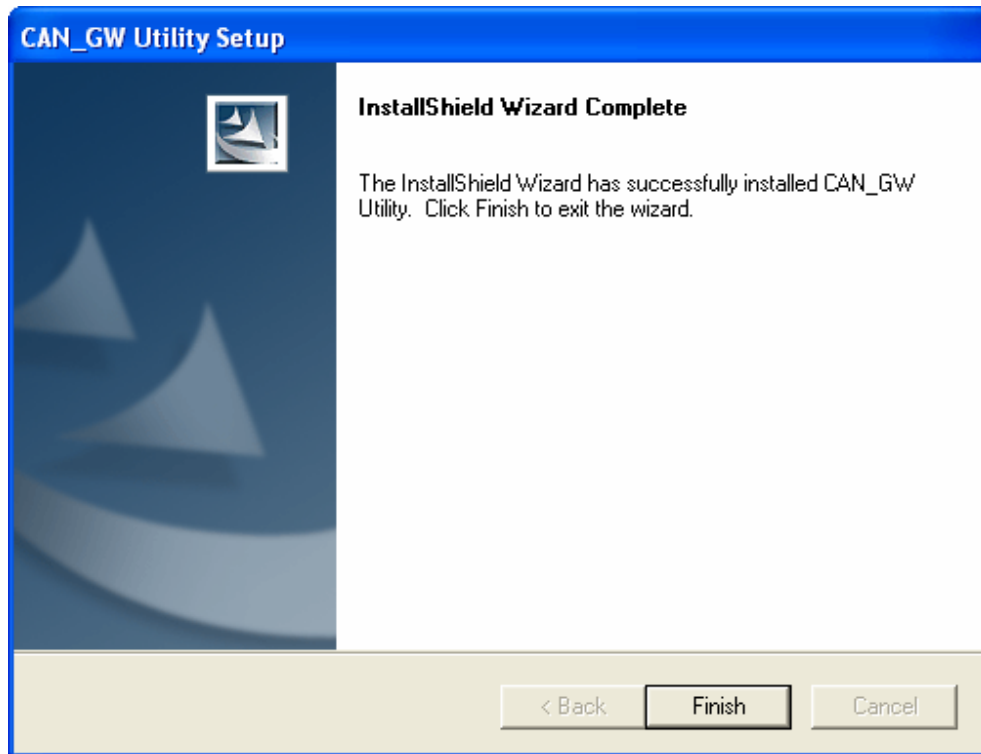

Fig 5-5. “Complete” dialog
Step 6: Click the “Next” button and start to install the CAN Gateway Utility to the system. After finishing the process, A “Complete” window pops up to prompt user as Fig 5-5 shown.